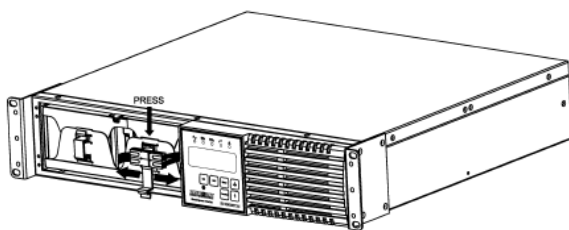

FIG. 3
8. Press down to unlock the battery connector holder (FIG. 3).
9. Disconnect the battery connectors (FIG. 3)